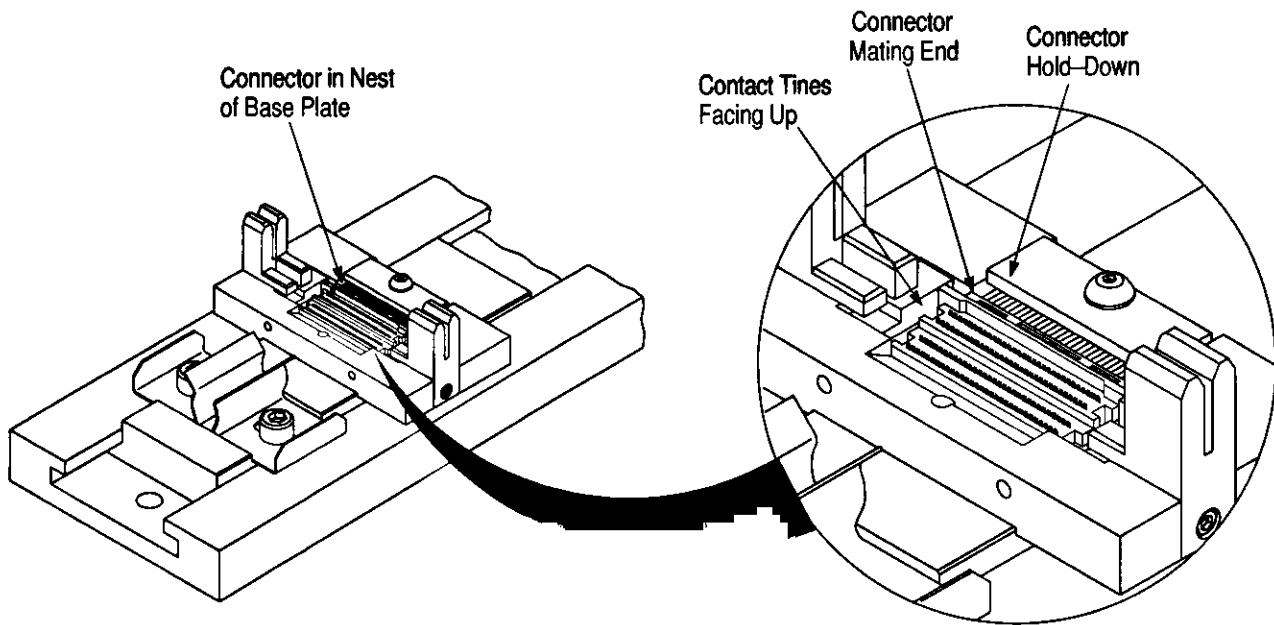

Figure 7
2. Position the connector into the nest of the base plate with the contact tines facing up and the mating end under the connector hold-down. Push the connector down into the nest until it snaps into place. See Figure 7.